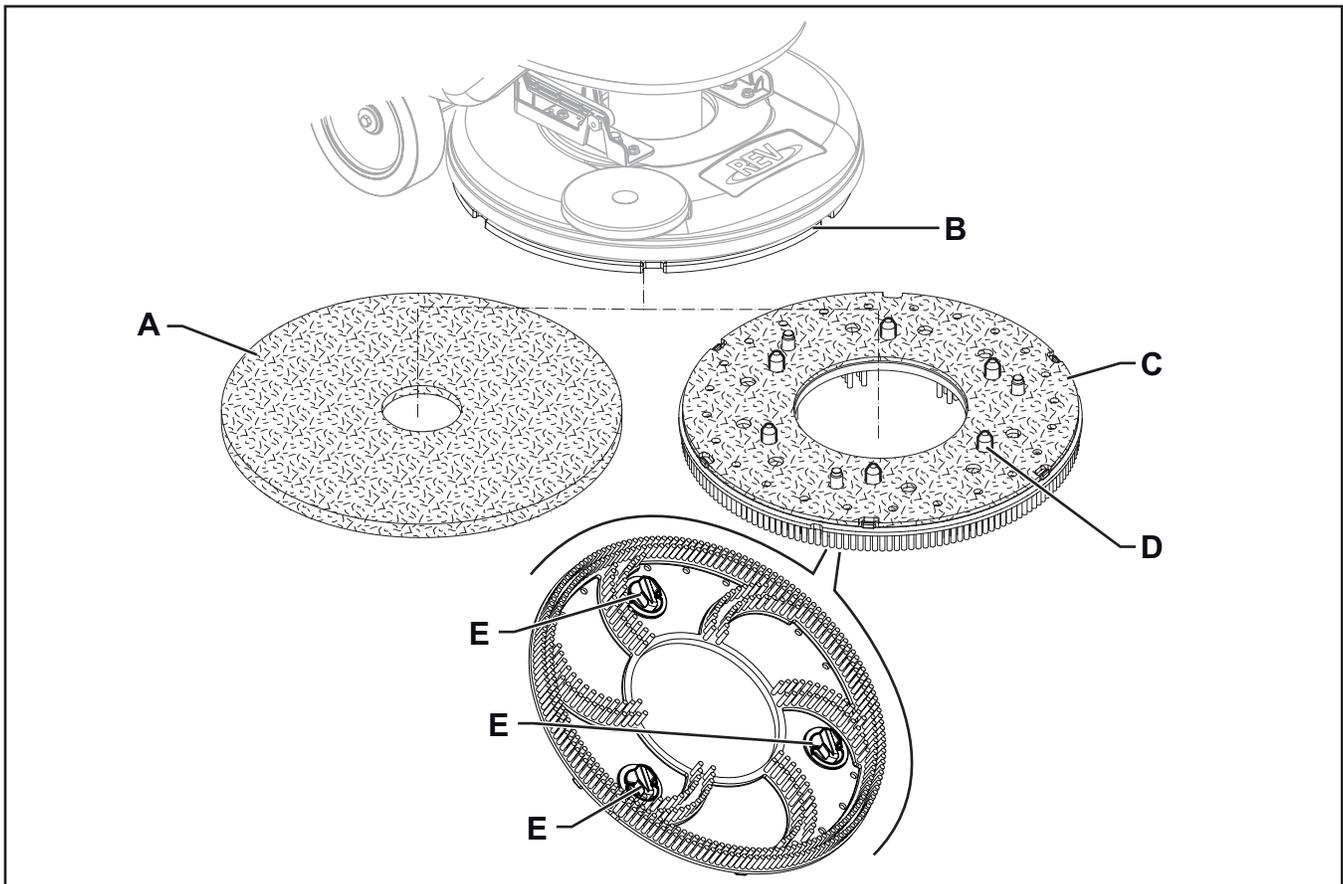

Figure 5
1. With the REV deck raised, install the pad (A) (Figure 5) or the brush (C), depending on the type of treatment to be performed:
- Place the pad (A) under the deck and press it until it is fastened with the Velcro of the drive disc (B).
- Place the brush (C, optional) under the deck, and then match the centering pins (D) to the respective holes of the drive disc (B), and then engage the brush with the mounting screws (E).